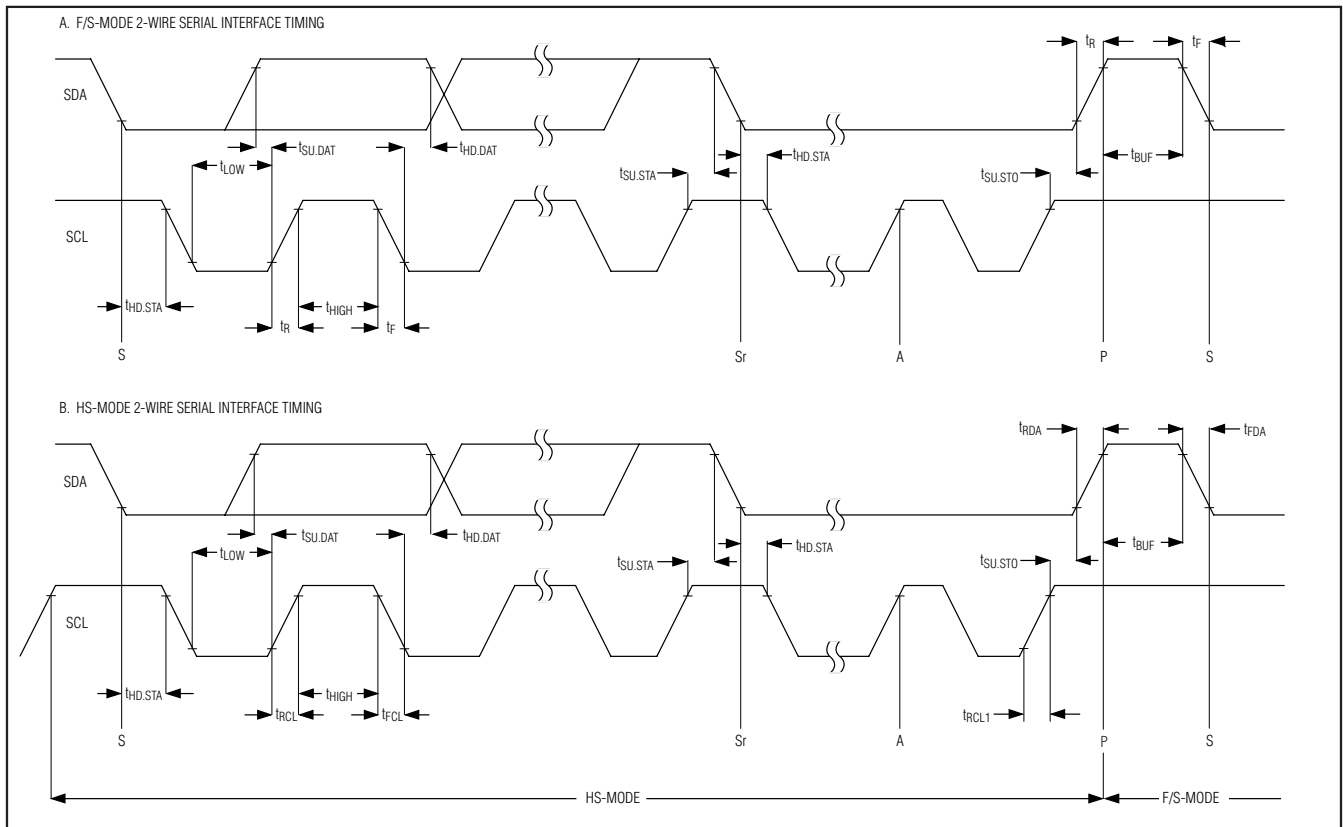

Figure 1. 2-Wire Serial Interface Timing
### TIMING CHARACTERISTICS (Figure 1)
## TIMING CHARACTERISTICS (Figure 1) (continued)
**Note 10:** A master device must provide a data hold time for SDA (referred to VIL of SCL) in order to bridge the undefined region of SCL's falling edge (see Figure 1).
At power-up, the MAX1236-MAX1239 bus timing is set for fast-mode (F/S-mode), which allows conversion rates up to 22.2ksps. The MAX1236-MAX1239 must operate in high-speed mode (HS-mode) to achieve conversion rates up to 94.4ksps. Figure 1 shows the bus timing for the MAX1236-MAX1239's 2-wire interface.